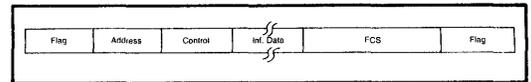

Figure 4. WD193X SDLC/HDLC/ADCCP FRAME FORMAT
In HDLC, the address (A) and control (C) characters are extendable (more than one character). An important characteristic of a frame is that its contents are made code transparent by use of a zero bit insertion and deletion technique. Thus, the user can adapt any format or code suitable for his system. The frame is bit-oriented, meaning that, bits not characters in each field have specific meanings. The Frame Check Sequence (FCS) is an error detection scheme similar to the Cyclic Redundancy Checkword (CRC) widely used in magnetic disk storage devices. The frame format is shown in Figure 4.